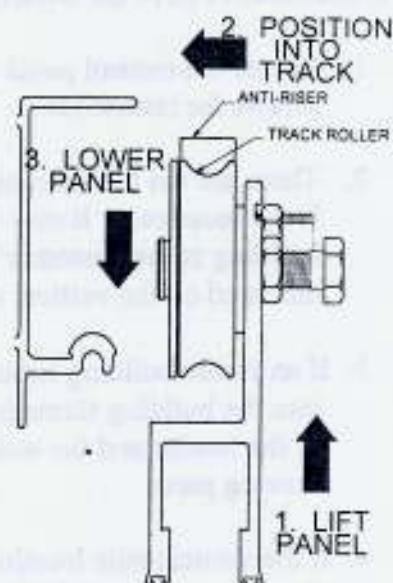

Figure 23
2. Lift the door onto the track. Slightly tilting the door approach angle may be necessary to allow rollers to catch the track (See Figure 23).